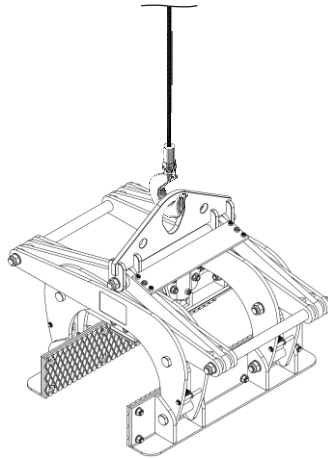

Figure 1.1
**Step 1:** Hook the Barrier Heavy Lifter to a forklift boom (Figure 1.1)